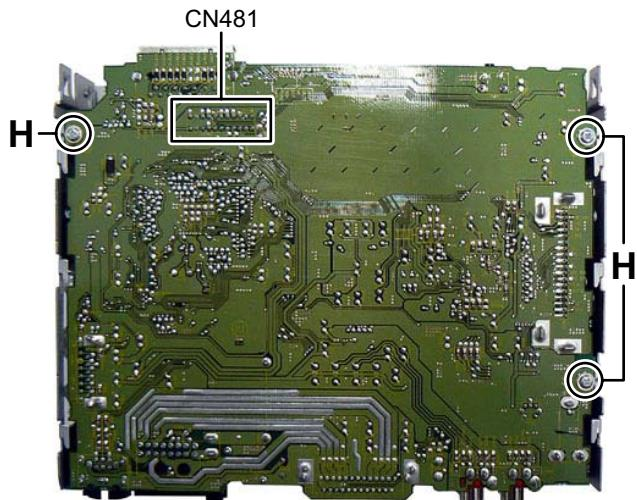

Fig.5
- (3) Remove the three screws **H** attaching the Main board. (See Fig.5)
- (4) Disconnect the B-B connector connected CD mechanism and Main board CN481 of the Main board. (See Fig.5)
- (3) Take out the top cover in an upward direction. (See Fig.5.)